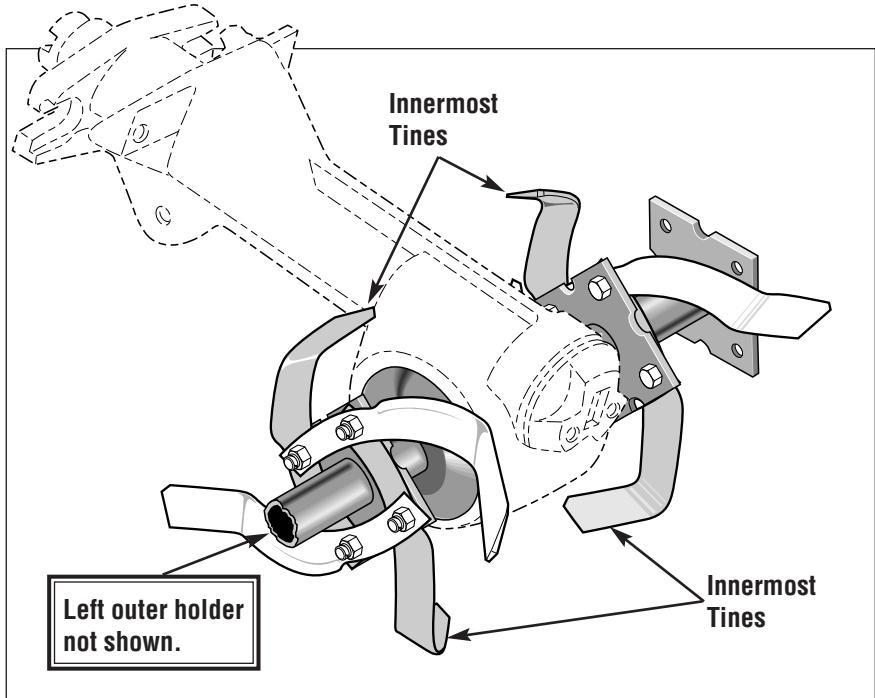

Figure 9: Innermost tines on inner holders.
A. Make sure that the tips of the four **innermost** tines (those nearest the transmission housing) are directly opposite each other, pointing toward each other and toward the transmission housing. See Figure 9.